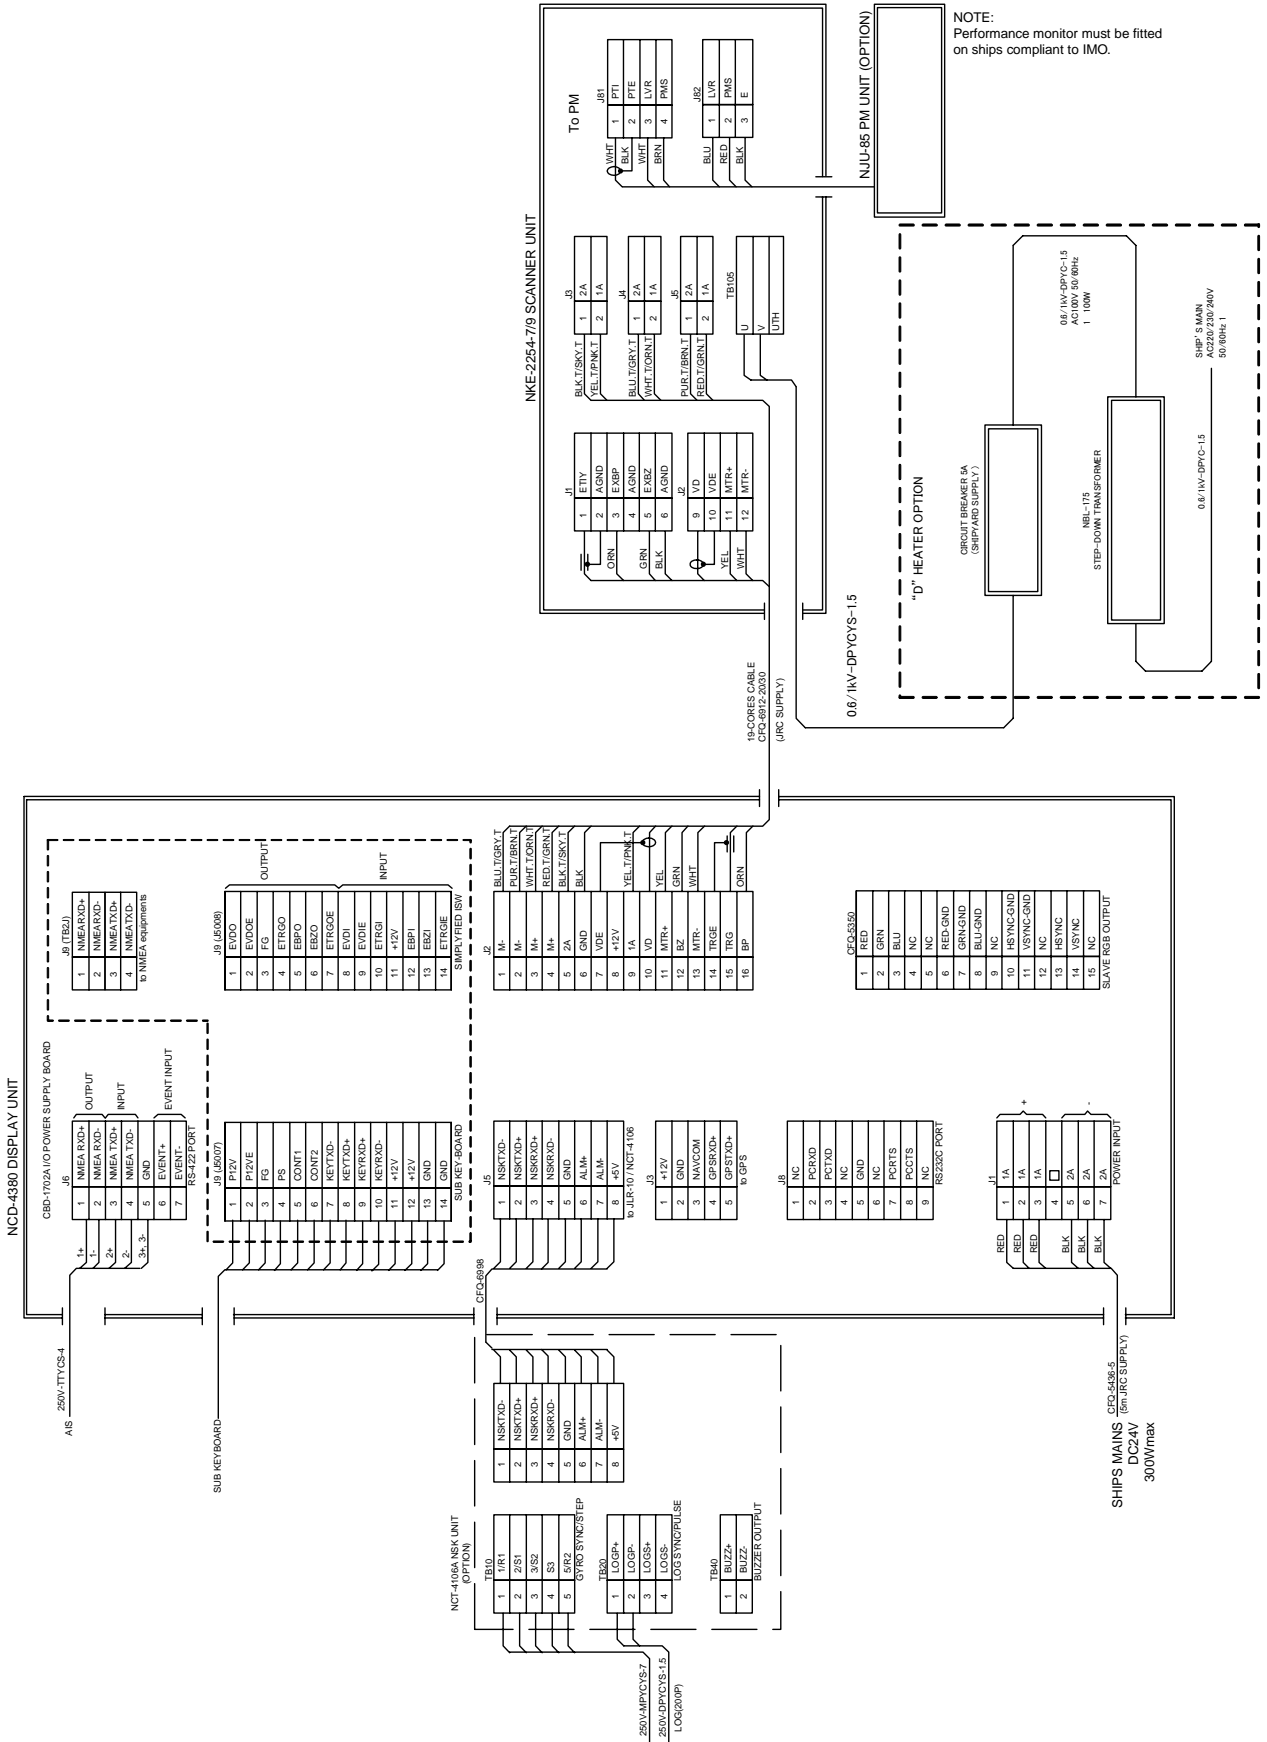

Figure 4 JMA-5222-7/9 Inter-connection Diagram
- FIGURE 4 JMA-5222-7/9 INTER-CONNECTION DIAGRAM